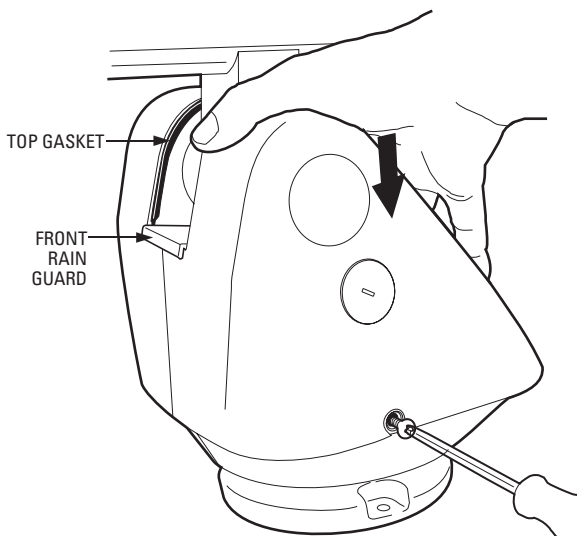

Figure 5. Installing the Esprit Cover
- b. Apply pressure and push the top of the cover down to align the screw holes (refer to Figure 5).